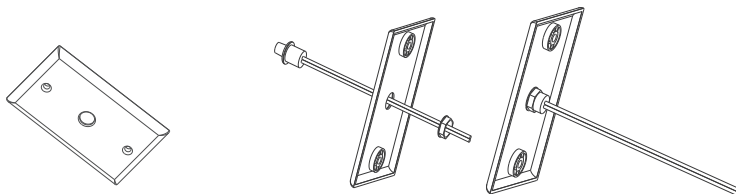

Figure 2-1
1. Attach the indicator to the Single Gang Jbox Face Plate (refer to Figure 2-1).